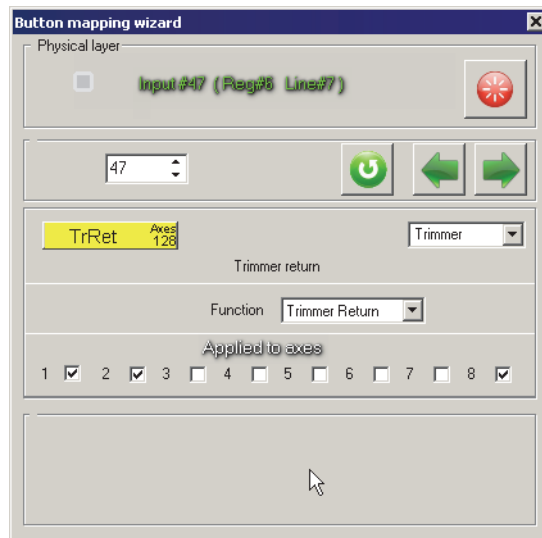

Fig. 4.42.
**Button mapping wizard** dialog for Trimmer Return function is similar to one for Trimmer Reset and is shown on Fig. 4.42.